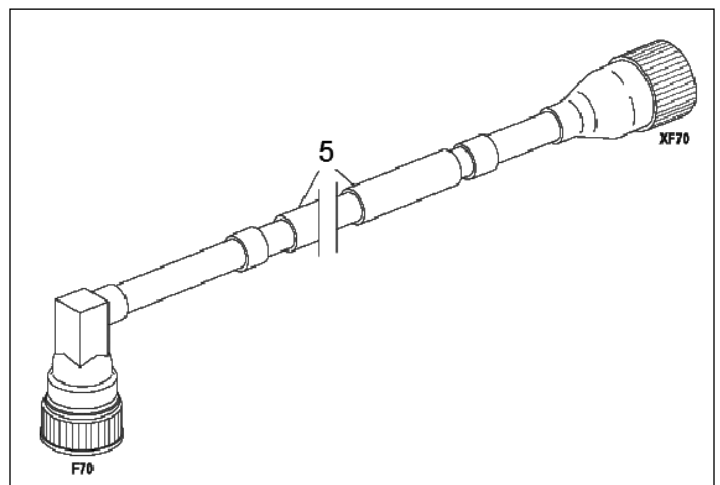

Figure 5 - WIF Sensor Harness
4. Route the WIF sensor harness (5) from the Industrial Pro to the XF70 connector on the engine. Securely route and support the the WIF sensor harness in the equipment.
5. Connect the XF70 plug of the WIF sensor harness (Figure 5) (5) to the XF70 connector on the engine and tighten the bayonet lock (2) (Figure 5).